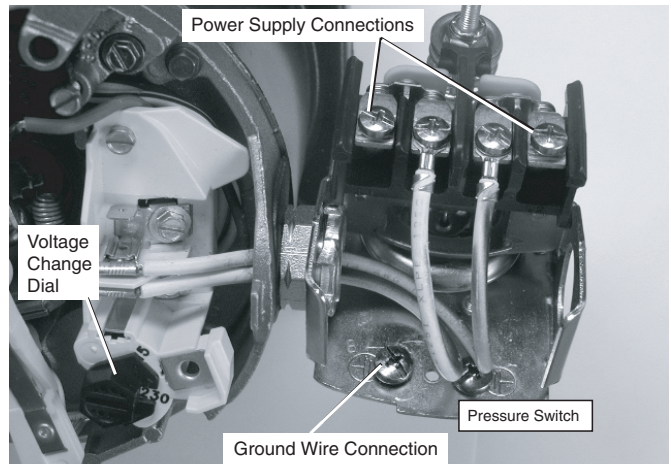

Figure 4: Voltage set to 230 volts, Dial Type
3. Attach the incoming power leads to the two outer screws on the pressure switch as shown in Figure 4.
4. Attach the ground wire to the grounding connections as shown in Figure 4.